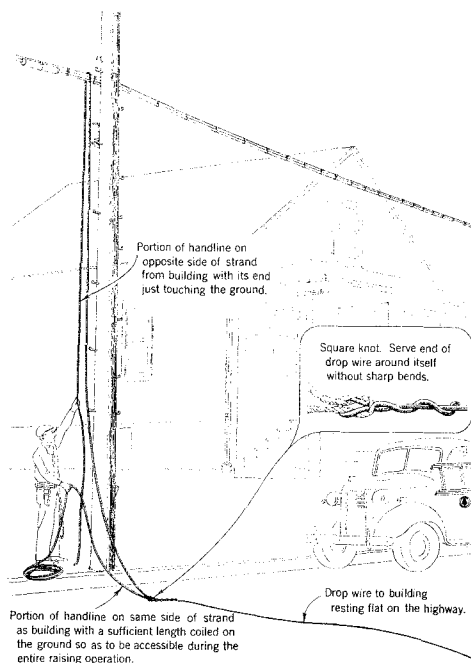

Fig. 3 — Raising the Drop Wire
- (1) After the wire has been repaired, lay it along the ground between the building and the building side of the highway and coil the remaining length of wire.
- (2) When no traffic is approaching, carry the coil across the street or highway to the previously placed handline, paying out the wire so that it rests flat on the ground. If a metal or hard rubber-tired vehicle passes over the wire, pull the wire back to the building side of the highway. Inspect the wire for possible injury and replace any portions that are found to be damaged.
- (3) Tie the end of the drop wire to the handline as shown in Fig. 3 at a point in that